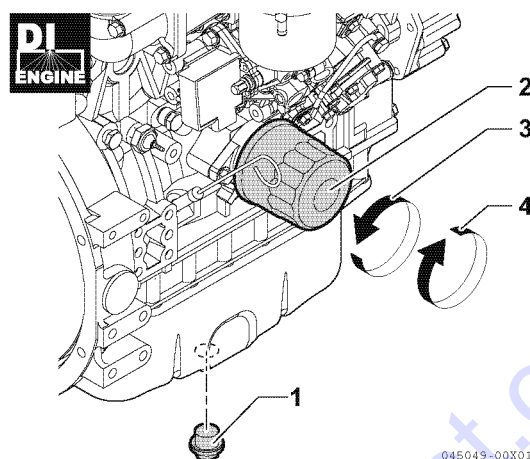

Figure 20
6. Remove the oil drain plug (1, **Figure 20**) from the engine oil pan. Allow oil to drain.
7. After all oil has been drained from the engine, reinstall the oil drain plug (1, **Figure 20**) and tighten to 40 - 47 ft-lb (53.9 - 63.7 N·m, 5.5 - 6.5 kgf·m).
1. Turn the engine oil filter (2, **Figure 20**) counterclockwise (3, **Figure 20**) using an oil filter wrench.
3. Lightly coat the gasket on the new oil filter with engine oil. Install the new engine oil filter manually by turning it clockwise (4, **Figure 20**) until it contacts the mounting surface. Tighten to 14 - 17 ft-lb (19.6 - 23.5 N·m, 2.0 - 2.4 kgf·m) or one additional turn using the oil filter wrench.